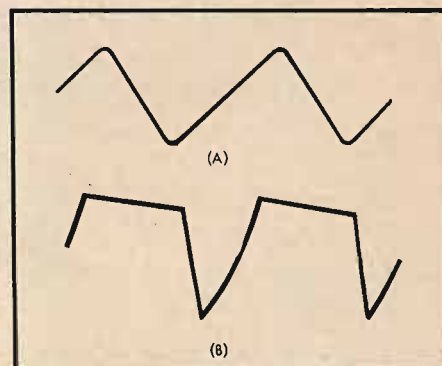

Fig. 7. Waveshape at (A) is that given by the generators proper. The shape at (B) has higher harmonic content and is obtained by differentiation.
and therefore takes the waveform of a sawtooth, as illustrated at (A) in Fig. 7. As can be seen, the flyback time of the sawtooth is quite large—at least 20 per cent—and the harmonic content is not very great. This was a fault in earlier models and made it impossible to secure any really bright tone qualities or, indeed, to have any really satisfactory variety of tone colors. In addition, the high-impedance key-switch system had to be of the shunt type because of leakage through the capacitance of open switches.
be seen in the resulting waveform of (B) in Fig. 7. With this improvement, the new models have very satisfactorily bright and interesting reeds and strings and a very good variety of colors. The second function, incidental but useful, is in voicing. By selection of the capacitor elements of the differentiators, the overall level of the higher notes is made greater than that of the lower ones. When all tones are passed through the later formant filters which are mostly of the low-pass type, the total scale tends to have more even loudness from top to bottom than if all incoming tones to the filters were of the same level. This is the same job done in the Baldwin organ by networks between octaves in the keying bus outputs and in the Schober Organ Kits by varying-value resistors in series with each key switch.